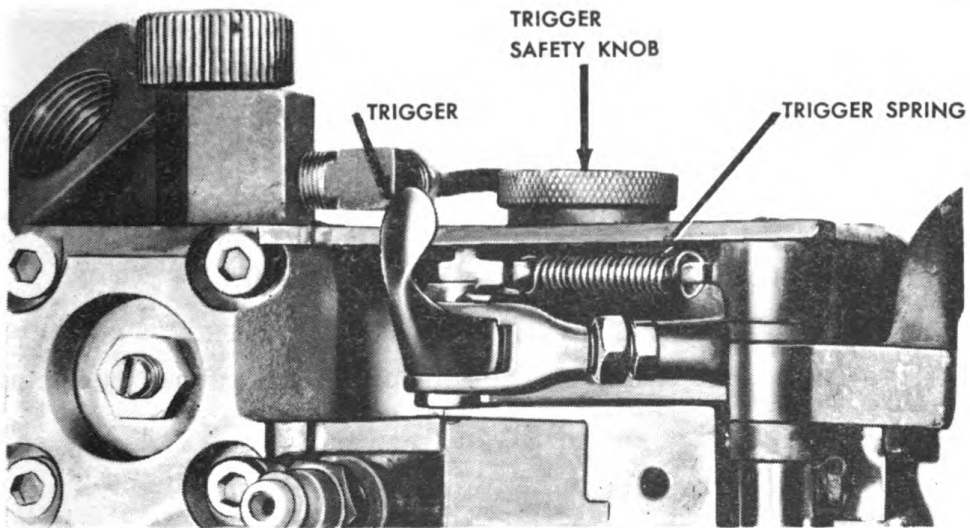

Fig. 100. Trigger spring (view from bottom of gun).
(4) Remove trigger spring (fig. 100). To do this, insert blade of screw driver between spring and safety plate and pry spring off the two hooks which retain it.
(5) Pry off safety plate.
(6) Slide off camshaft and trigger mechanism from bearings on safety plate.
(7) Remove control levers, spacers, and shaft.